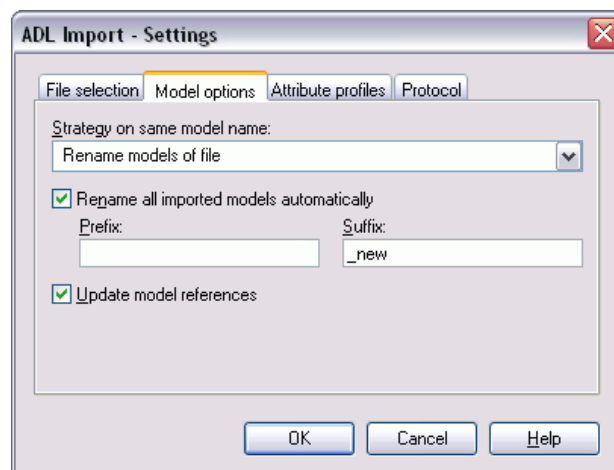
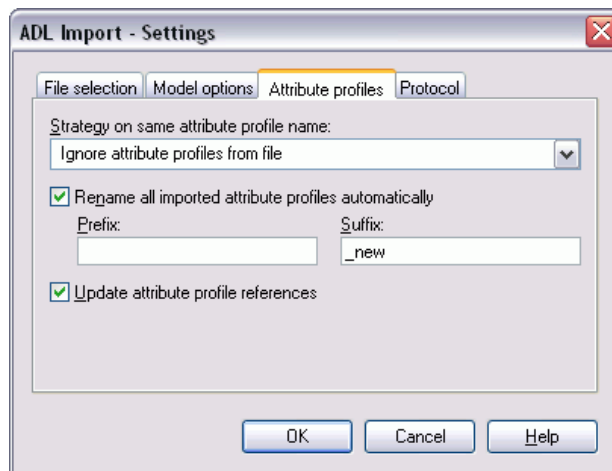

Figure 382: ADL Import - Model options
Figure 383: ADL Import - Attribute profiles
**Hint:** Only the name of the models or of the attribute profiles to be imported is compared to the models or attribute profiles stored in the ADOxx database, **not** their contents. Therefore, an imported model or attribute profile may have the same content as one stored in the ADOxx database, but under a different name. This means it is very important to select the appropriate options as listed in the window "ADL Import - Settings" (see fig. 382) for importing models (see chap. 6.1.1, p. 446) with identical names or in the window "ADL Import - Settings" (see fig. 383) for importing attribute profiles (see chap. 6.1.1, p. 446) with identical names.